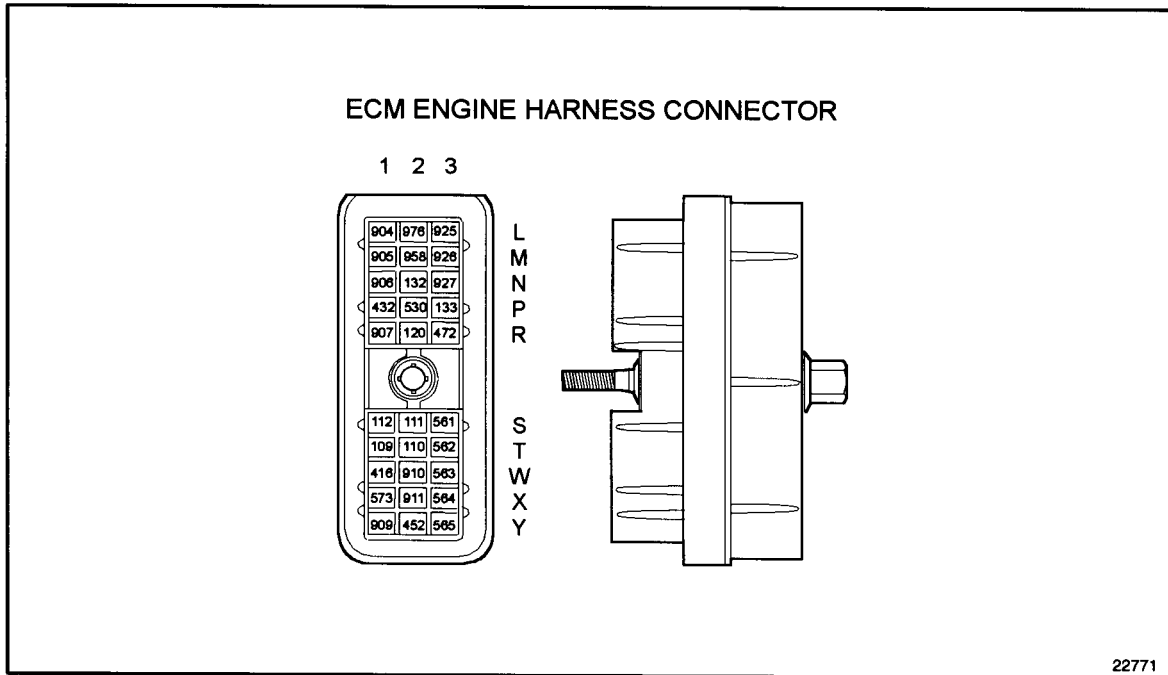

Figure 27-3 ECM Engine Harness Connector
4. Measure resistance between sockets N2 and W1 on the engine harness connector. See Figure 27-3.